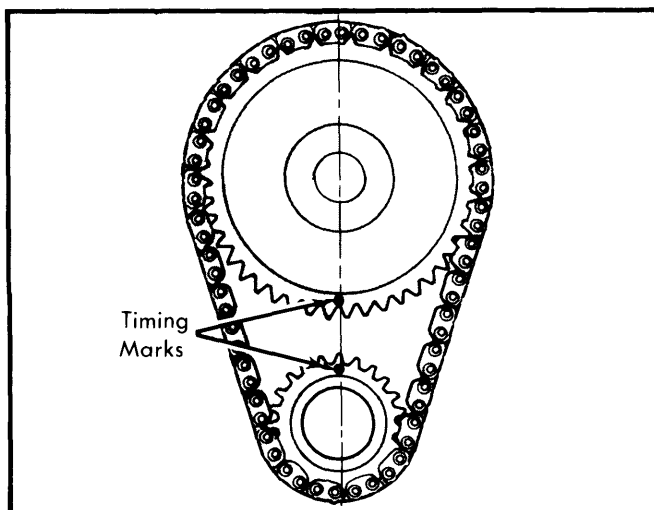

Fig. 5 Timing Chain Sprocket Alignment
**Installation** — 1) Assemble timing chain, crankshaft sprocket and camshaft sprocket with timing marks aligned See Fig. 5. Install fuel pump eccentric and distributor drive gear.